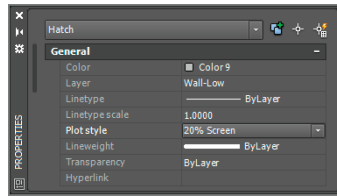

FIGURE 14.12 Changing the plot style assigned to a specific object
- Open the Plot Style drop-down in the Properties palette, and select Other from the menu. Select 20% Screen in the Select Plot Style dialog box that appears. Click OK, and 20% Screen is listed as the plot style for the Hatch object in the Properties palette (see Figure 14.12). This object will plot with reduced intensity, so the hatch appears lighter.